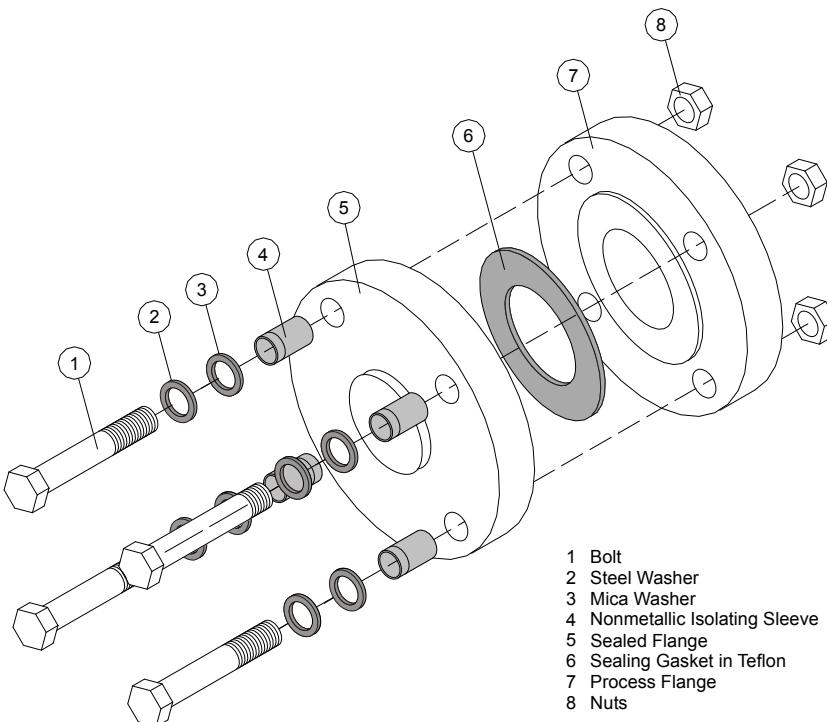

Figure 5.5 – Insulator Kit Mounting
The figure 5.5 shows the following parts that constitute the Smar Insulator Kit: Teflon Gasket (6), Nonmetallic Insulating Sleeve (4), Mica Washers (3) and Steel Washers (2).
See Figure 5.5.